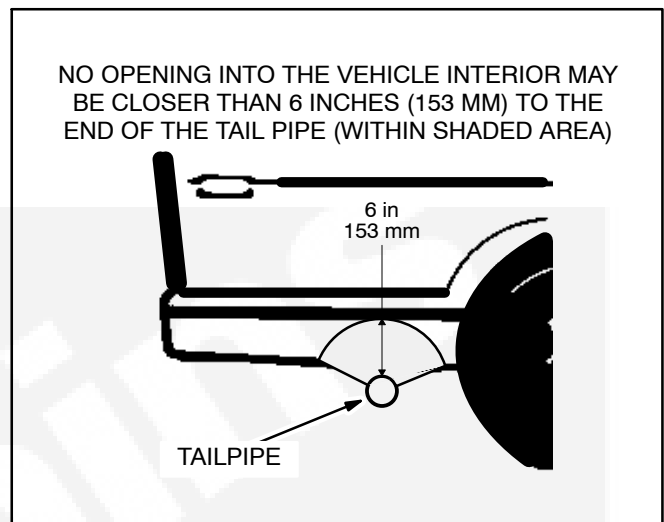

FIGURE 3-4. MINIMUM DISTANCES TO OPENINGS
8. Do not terminate the tailpipe such that it is closer than 6 inches (153 mm) to any opening into the vehicle interior (door, window, vent). See Figure 3-4.